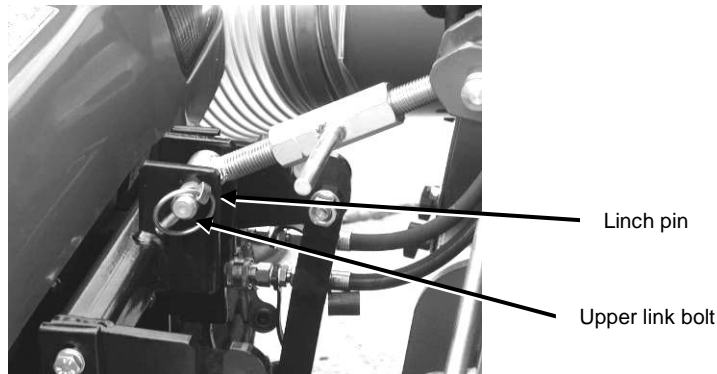

Fig. 52: Upper link
10. Fasten the upper link to the upper link bolt on the tractor (see Fig. 52).